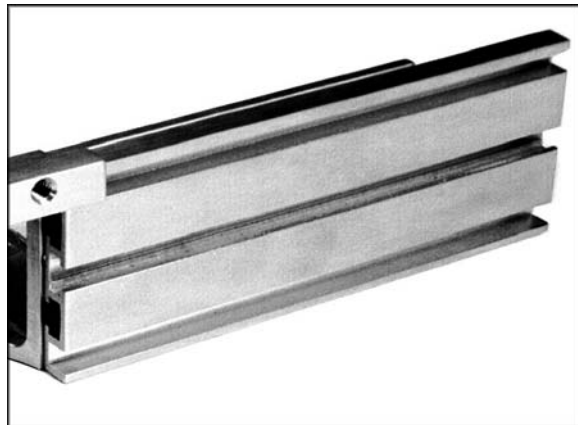

Figure 9
3. Slide assembly along the fence support until it stops at the fence guard bridge (Fig. 9). Securely fasten the screws.